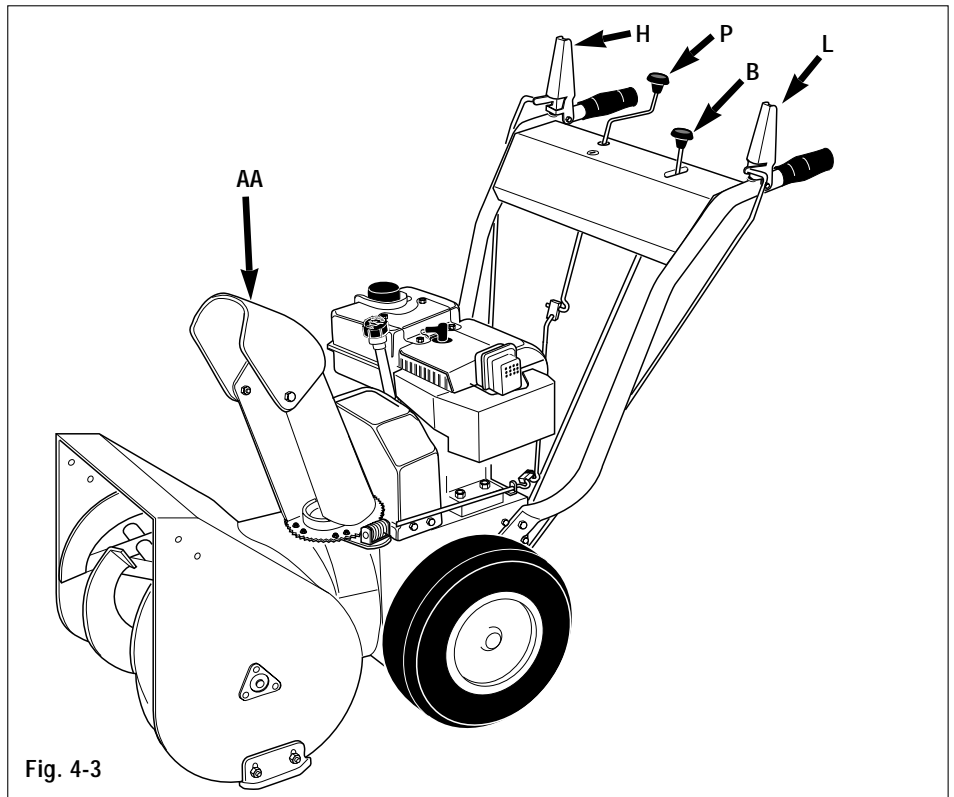

Fig. 4-3
- Adjust the discharge chute deflector cap (AA, Fig. 4-3) with lever to the desired angle of discharge. Usually keep the angle of the discharge deflector cap low, especially in windy conditions.
- Rotate the discharge chute control rod (crank) (P, Fig. 4-3) and check for binding.
- Check the auger drive and wheel drive control levers (H and L, Fig. 4-3) for freedom of movement.